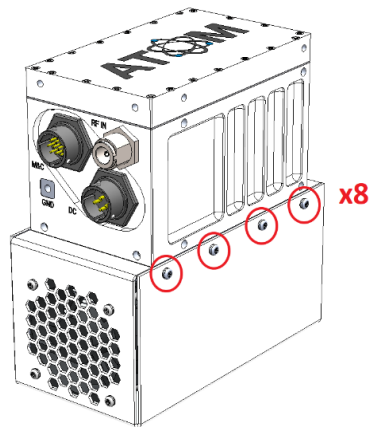

Figure 4-1: Fan Cover Securing Screws
2. Remove all eight screws and washers that secure the fan to the ATOM main body. You will find four screws on each side of the ATOM, as shown in Figure 4-1.